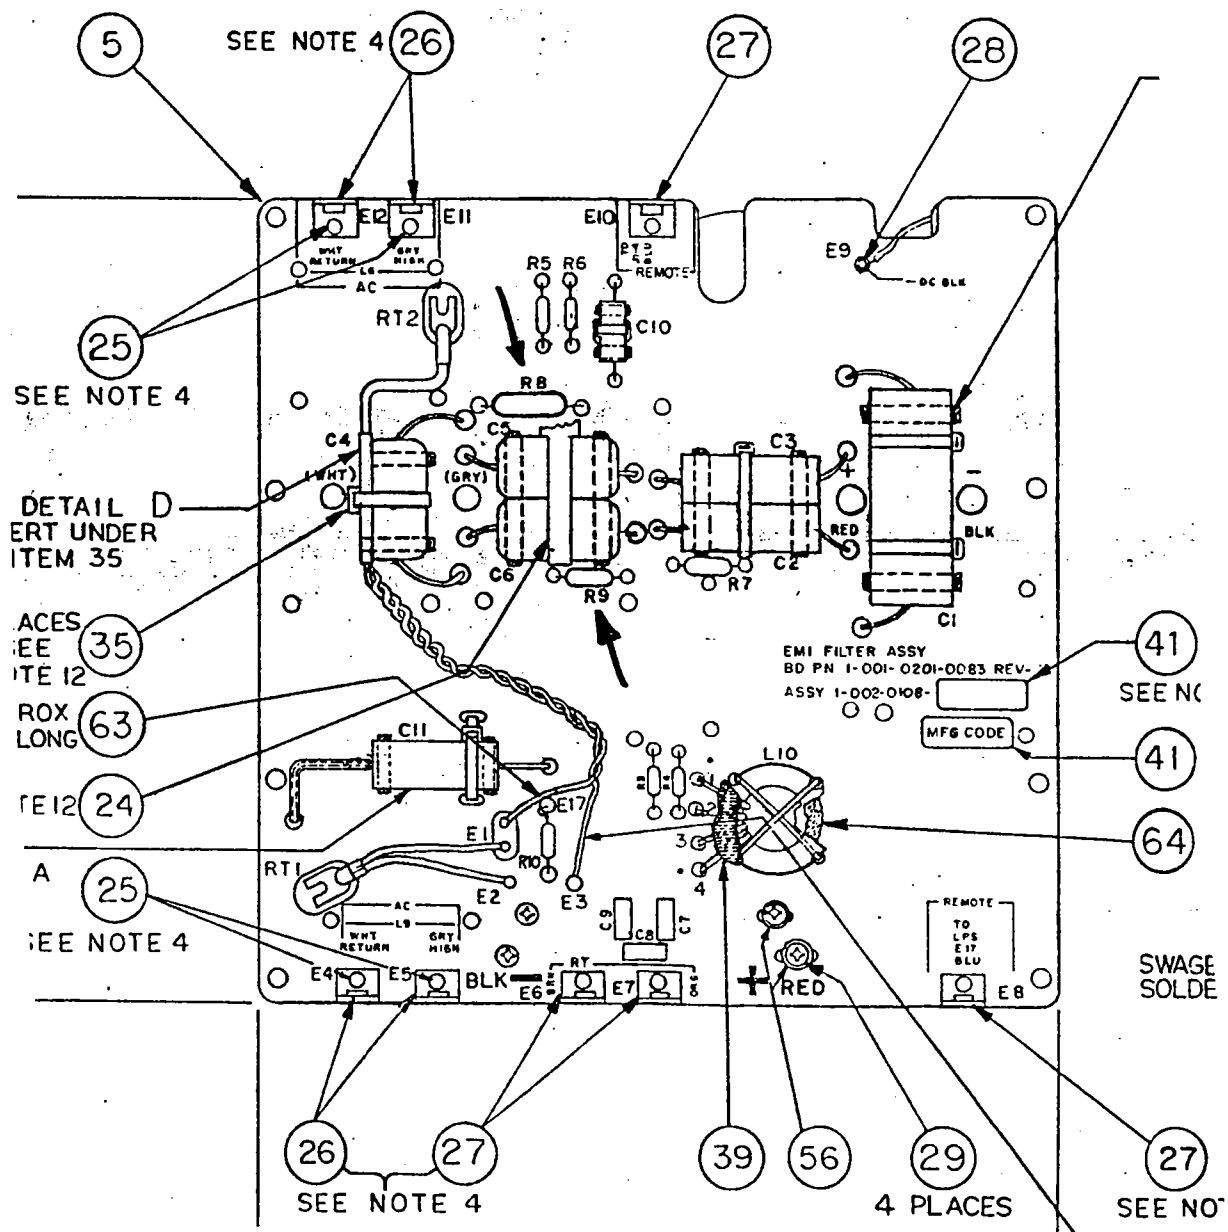

FIGURE 3
12. Locate resistors R8 and R9 on PCB (see figure 3).
17. Locate resistor R9 (see figure 3).